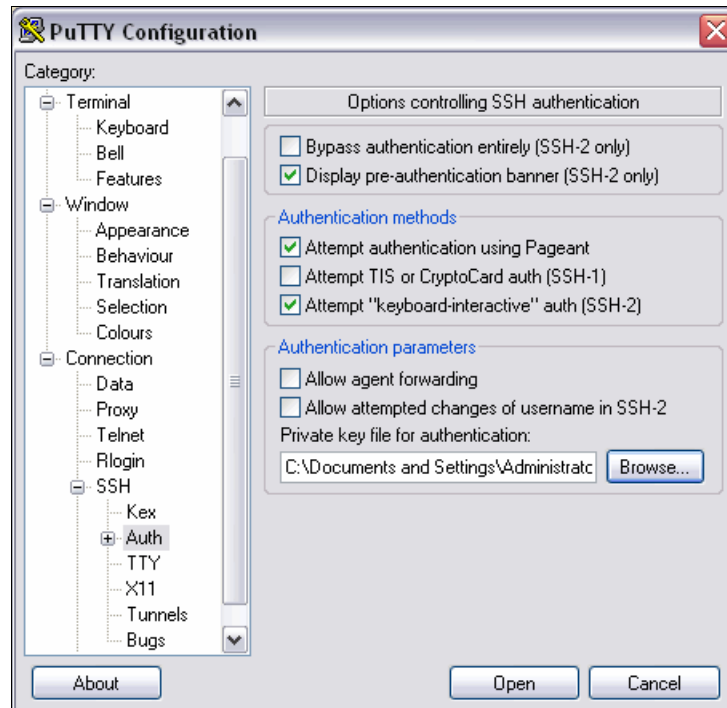

Figure 9-5 Configuring the SSH private key
- The private key for authentication (for example, `icat.ppk`), which is the private key that you created. To set this parameter, select **Connection** → **SSH** → **Auth** in the left pane of the PuTTY Configuration window, as shown in Figure 9-5.